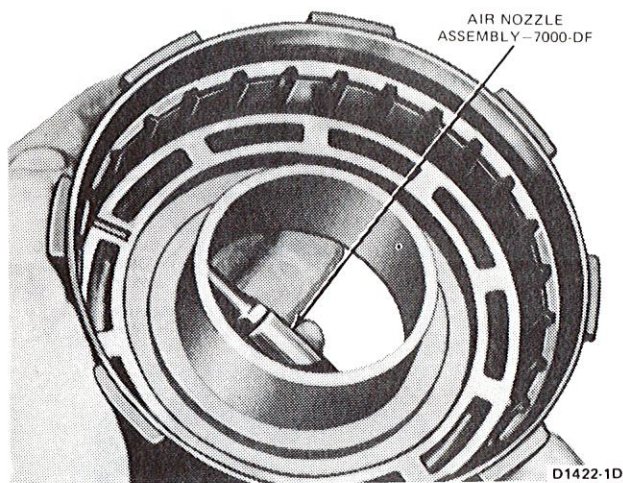

FIG. 39 Removing Reverse-High Clutch Piston
5. Apply air pressure to the piston apply hole in the clutch hub (Fig. 39) and remove the piston.